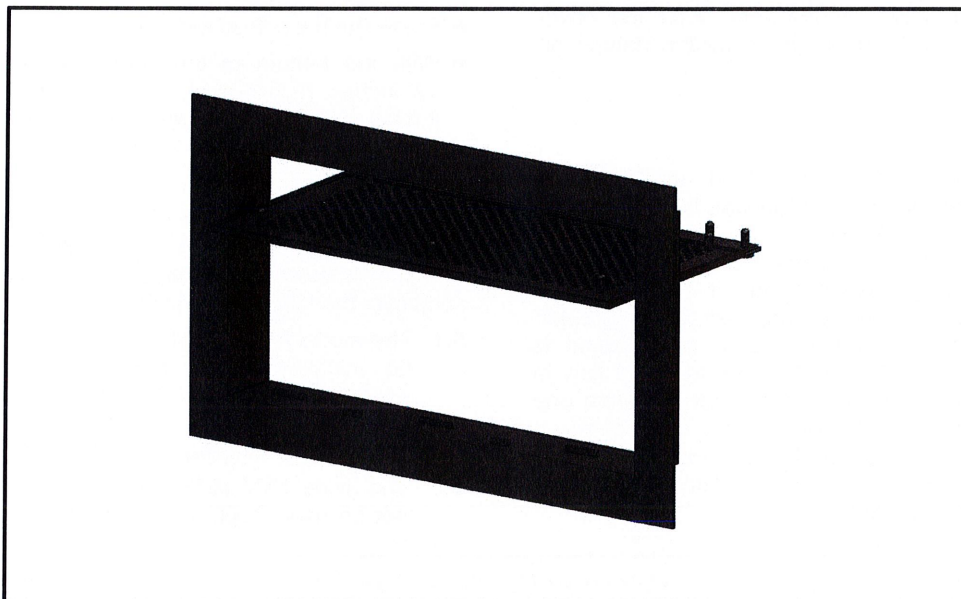

FIGURE 2—MODEL FFV-1608 FREEDOM FLOOD VENT™: SHOWN WITH FLOOD DOOR PIVOTED OPEN
2. APPLY A BEAD OF HURRIBOND™ GRIP & SEAL OR EQUIVALENT ADHESIVE AROUND THE BACK OF THE FLANGE ON THE VENT FRAME. (FIG. 2)
5. VENT DOOR COMES WITH COVER INSTALLED - IF NATURAL AIR VENTILATION IS DESIRED, REMOVE THE COVER BY PUSHING THE (6) RIVETS FROM BEHIND AND PLACE IN STORAGE. FOR USE IN COLDER TEMPERATURES, LEAVE COVER ATTACHED.